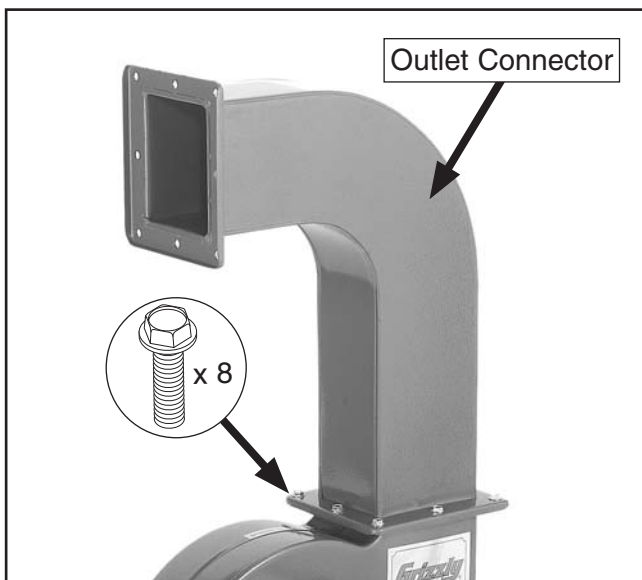

Figure 14. Outlet connector installed.
- Secure the outlet connector to the impeller outlet with (8) $\frac{5}{16}$ -18 x $\frac{1}{2}$ " flange bolts, as shown in **Figure 14**.